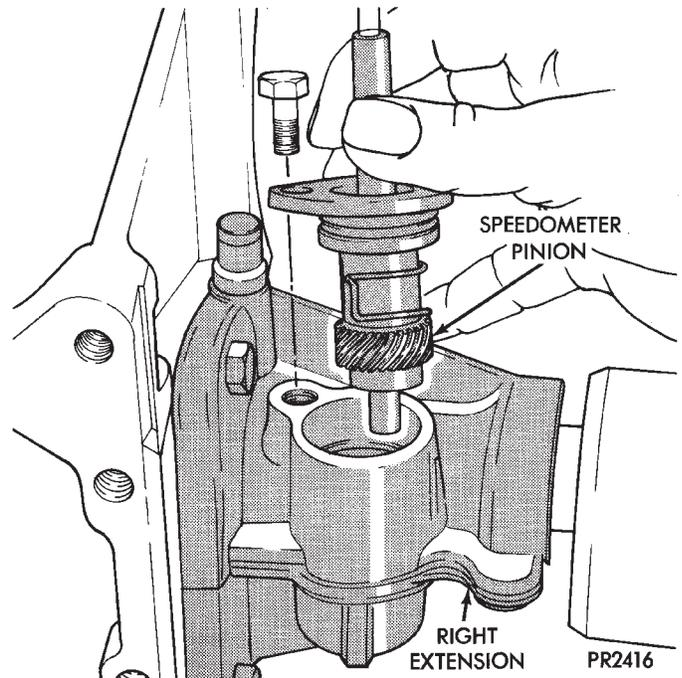

Fig. 14 Install Speedometer Pinion
- (5) Install speedometer pinion (Fig. 14).
- (6) Fill differential with proper lubricant (see Lubrication and Maintenance Group 0).
- (7) Install front hub nut assembly.
(8) If after installing the driveshaft assembly, the **inboard** boot appears collapsed or deformed. Vent the inner boot by inserting a round tipped small diameter rod between the boot and shaft. If necessary, massage the boot to remove all puckers being careful not to allow dirt to enter or grease to leave the boot cavity. If the boot is clamped to the shaft with a rubber garter clamp, it need not be removed to perform this venting operation. If the boot is clamped to the shaft using a metal clamp, the clamp must be removed and discarded before the rod can be inserted. After venting, install a **new** Service Clamp, or equivalent using special Tool C-4653 (see Boots Install section at the end of this group for details).